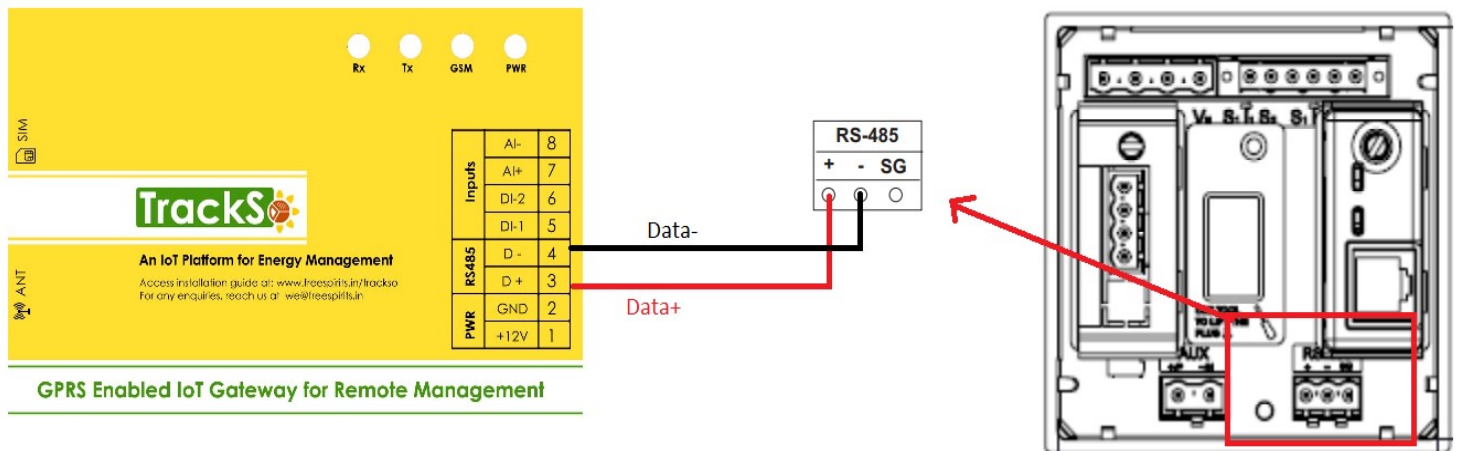

Figure S1 – Rear view of Secure Elite 440
1. Please unscrew the RS485 terminal as shown in *Figure S1*.